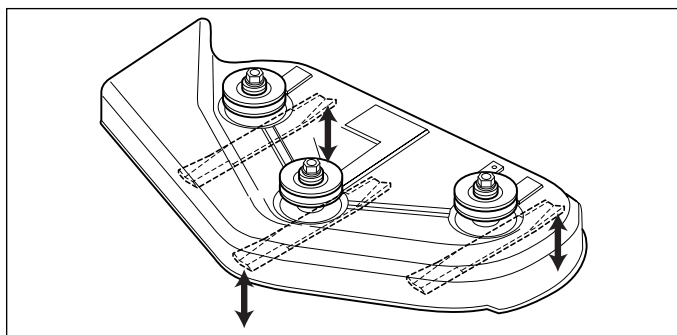

Figure 24. Orient Blades Front-to-Back
6. Arrange the blades so they face front-to-back (Figure 24).